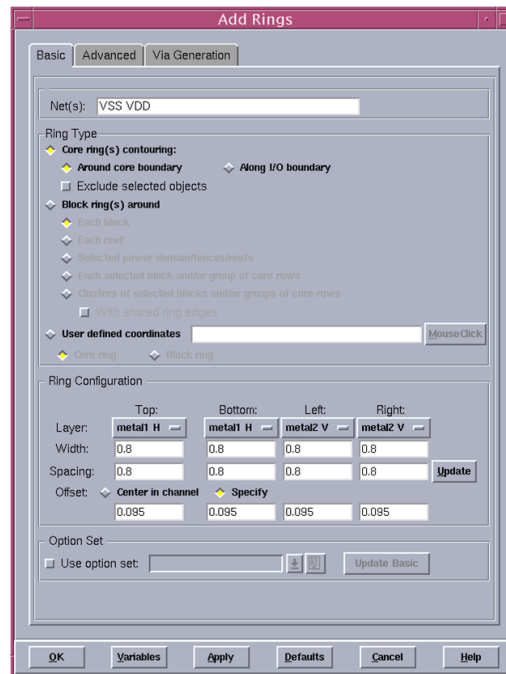

Figure 28: Add Ring Config
- Power->Power Planning->Add Rings (Figure. 28)